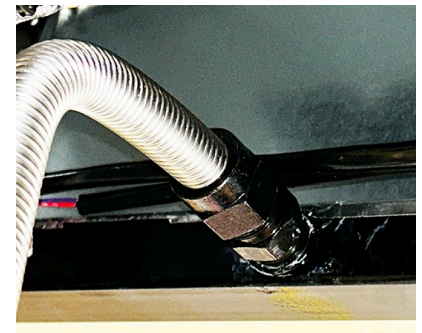

Figure 11
18. Attach the flexline from the dispose assembly to the fitting in the previous step (see Figure 11).